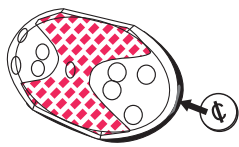

Fig. 1
1. Insert coin in slot at side of cover and twist to remove cover (Fig.1).